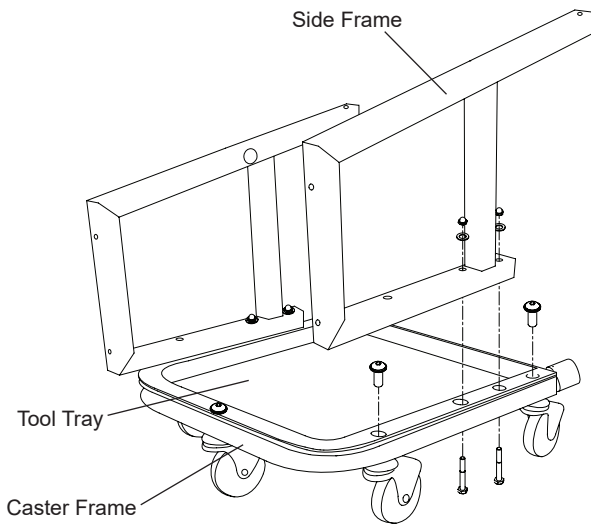

Figure 2 - Assembling tool tray and casters
2. Assemble tool tray and five casters to caster frame using Allen head binding barrels. Then attach two creeper side frames to caster frame with two M8 x 60 hex head bolts, two washers and two acorn nuts each (Fig 2).